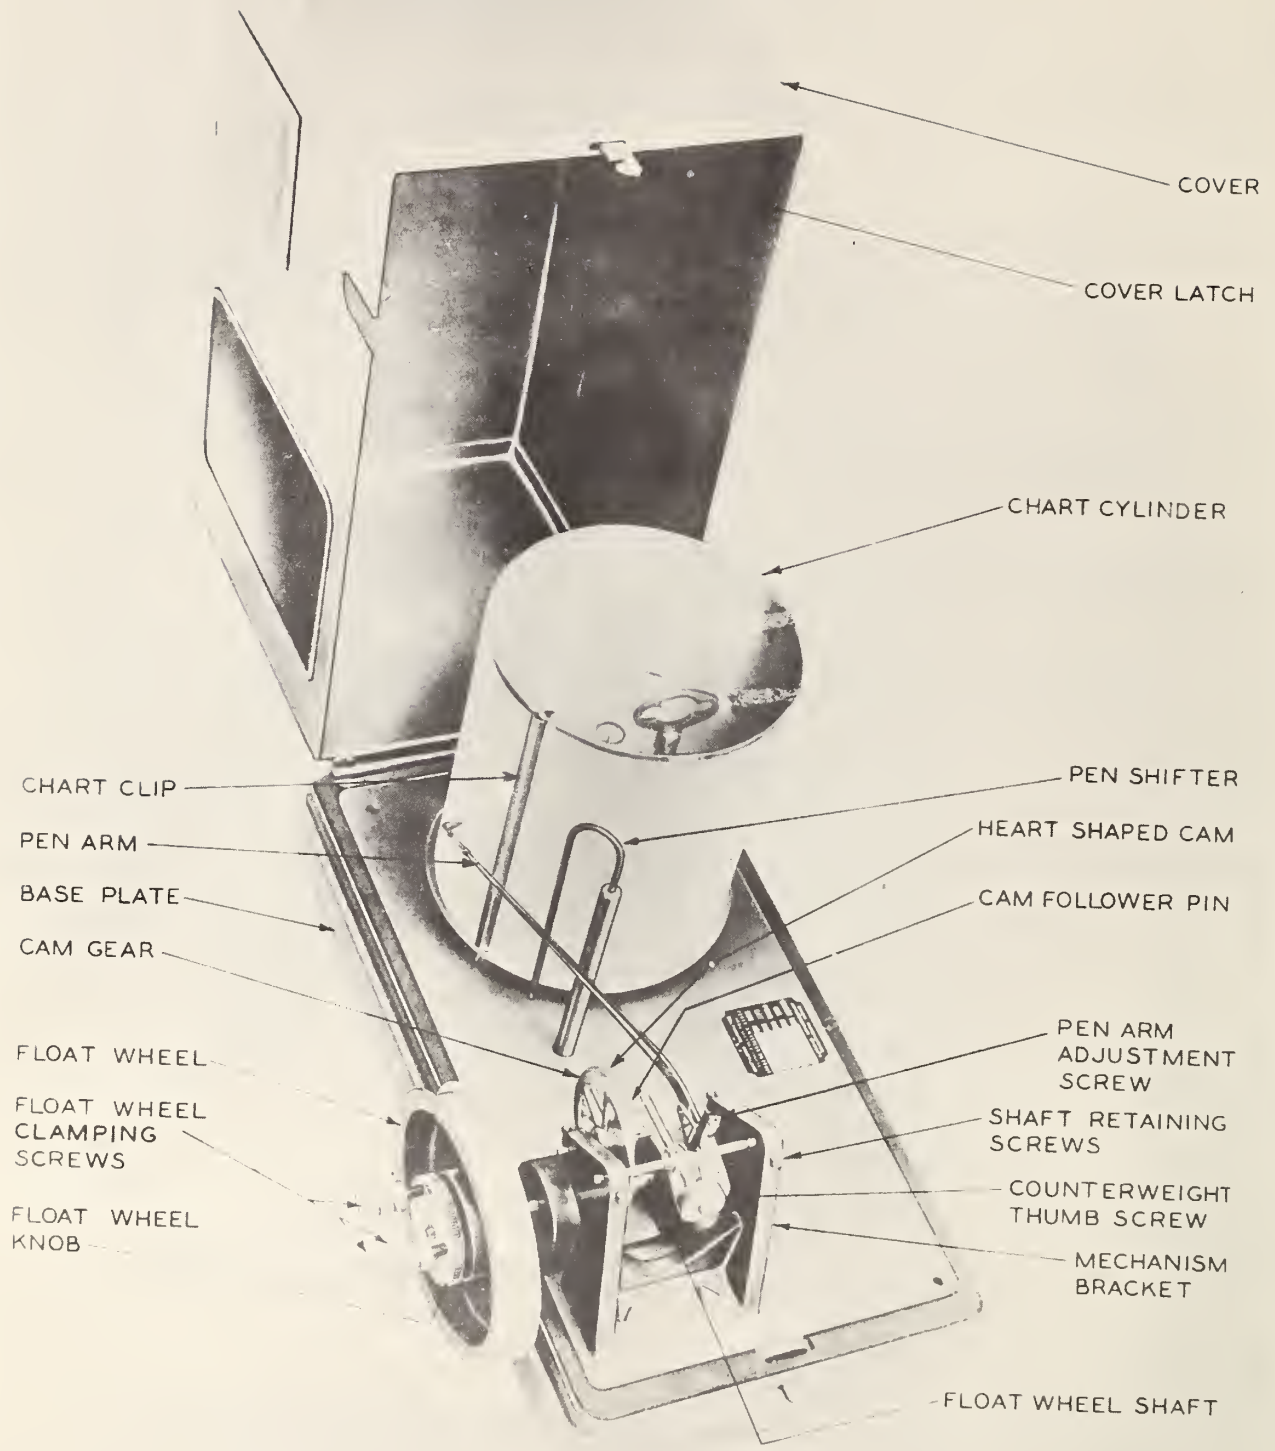
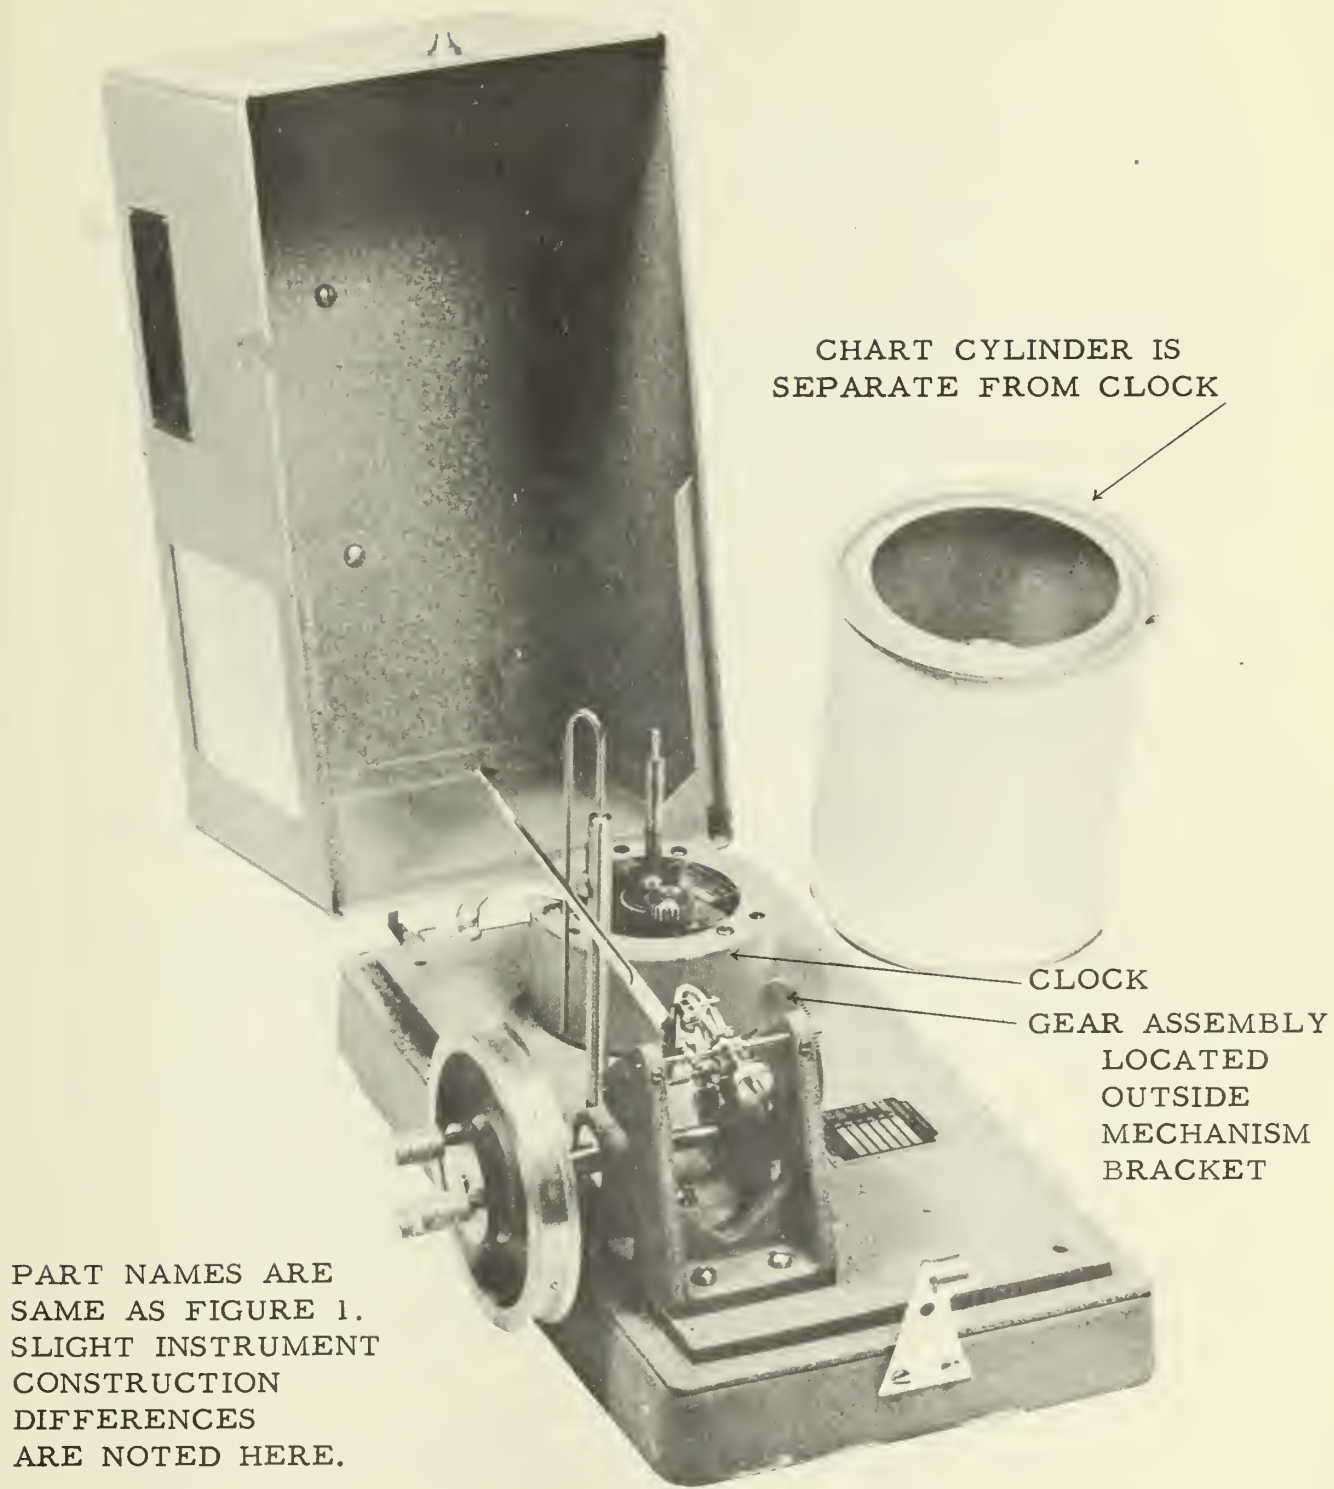

Figure 1.--Type A. Portable water recorder, Model FW-1 (cover raised).
Figure 2. --Type B. Portable water-level recorder, Model FW-1.
These instructions are intended for field personnel responsible for the operation and maintenance of FW-1 water-level recorders manufactured by the Belfort Instruments Corporation² or the Bendix Corporation. Two types of recorders have been manufactured by these companies. One has the clock mechanism contained in the chart drum (fig. 1), here called type A; and the other in which the clock is separate from the chart drum (fig. 2), here called type B. The instruction booklets that come with the instruments omit detailed directions for cleaning and adjusting the instrument. Instead, they recommend sending the recorders back to the factory for such adjustments. Under field conditions this is often impossible. This set of instructions should assist field personnel in making on-the-spot adjustments and in tearing down, cleaning, and readjusting the instrument in a shop or laboratory.
1. Before adjusting the instrument, the float, float tape, and weight should be put on the instrument (see fig. 1 for part names). A check should be made of the distances the pen registers with respect to the float. The float and pen should be checked at 0.1-foot intervals starting at zero and continuing through the reversal at 1 foot and back down to the 2-foot reversal. If higher flows have been encountered since the last servicing, continue the check to maximum peaks. If discrepancies exist the pen register and distance traveled by the float should be recorded on a chart which then can be used to correct past records. Extend corrections as far back on past charts as seems warranted.
2. Open instrument and remove chart cylinder (see fig. 1 for part names).
6. Remove wing nut, clock shaft, gear, washer, and clock (on type B instruments, see fig. 2) from base plate.
- a. Remove 24- or 96-hour gear from base of clock or top of clock (on type B instruments, see fig. 2) with a twisting motion after pin and washer are removed. Clean gear with toothbrush and solvent. Clean the shaft the gear was on with tissues or steel wool if corroded. Hold upright or upside down (on type B instruments) to prevent steel wool from dropping in clock.